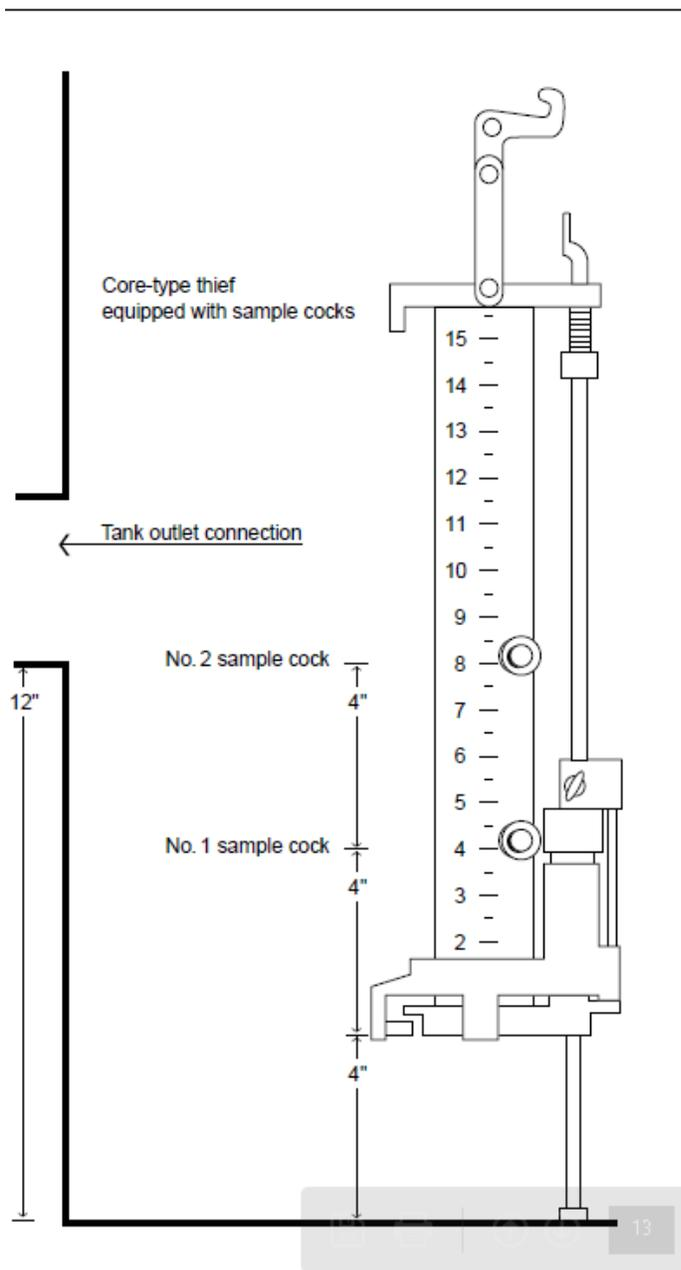

Figure 1
10. Use a modified thief to take the outlet and crude merchantability samples simultaneously. Using a thief as described with the trip rod extended 4 inches which is commonly used for a twelve inch tank outlet only, anything greater or less than twelve inches must be compensated accordingly, see figure 1 below.